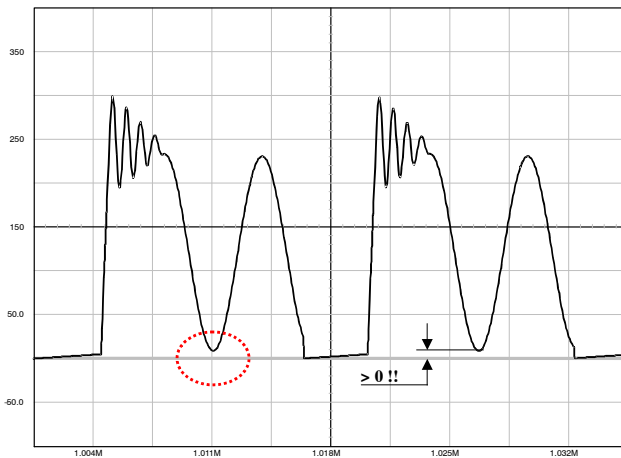

Figure 46. The Drain-source Wave Shall always be Positive
1. The lateral MOSFET body–diode shall never be forward biased, either during start-up (because of a large leakage inductance) or in normal operation as shown in Figure 46. This condition sets the maximum voltage that can be reflected during toff. As a result, the Flyback voltage which is reflected on the drain at the switch opening cannot be larger than the input voltage. When selecting components, you thus must adopt a turn ratio which adheres to the following equation: